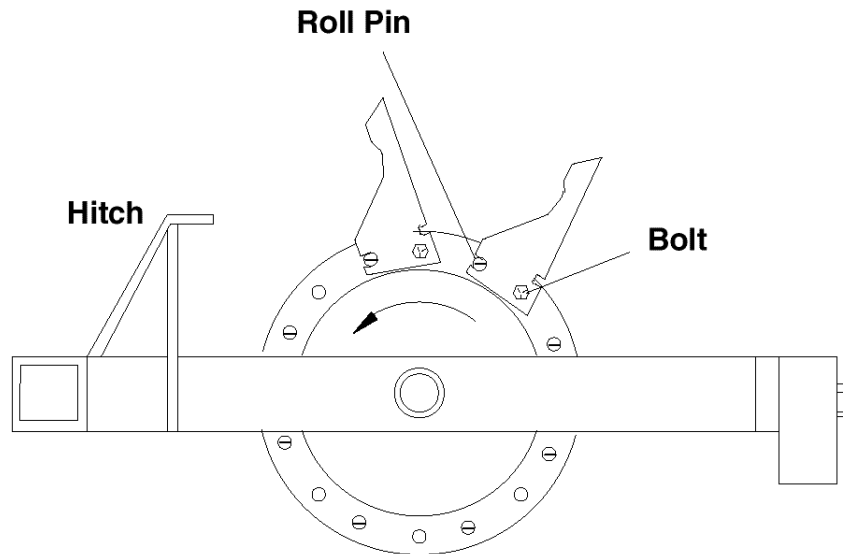

Figure 2
2. Start at the outside casting and install the tines as shown. Install all 8 tines on the casting making sure the roll pin is in the front position (Fig. 2). Use 1/2" x 1-3/4" bolts for the second hole and secure tightly.